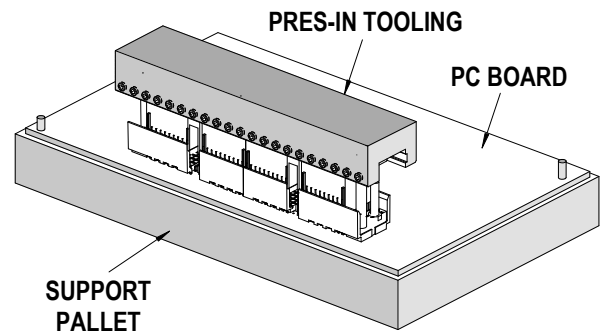

Figure 2-7
- Locate the tooling assembly in the connector assembly, carefully checking alignment. See Figure 2-7.